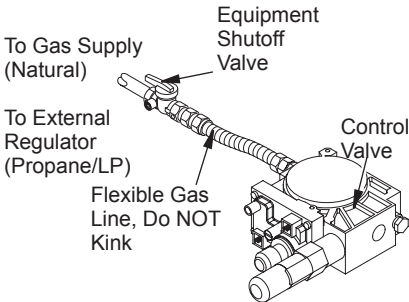

Figure 27 - Connecting/Disconnecting Gas Line to Millivolt Valve
1. Using a 5/16" hex socket wrench or nut-driver, connect or disconnect flexible gas line and control valve (see Figure 27).